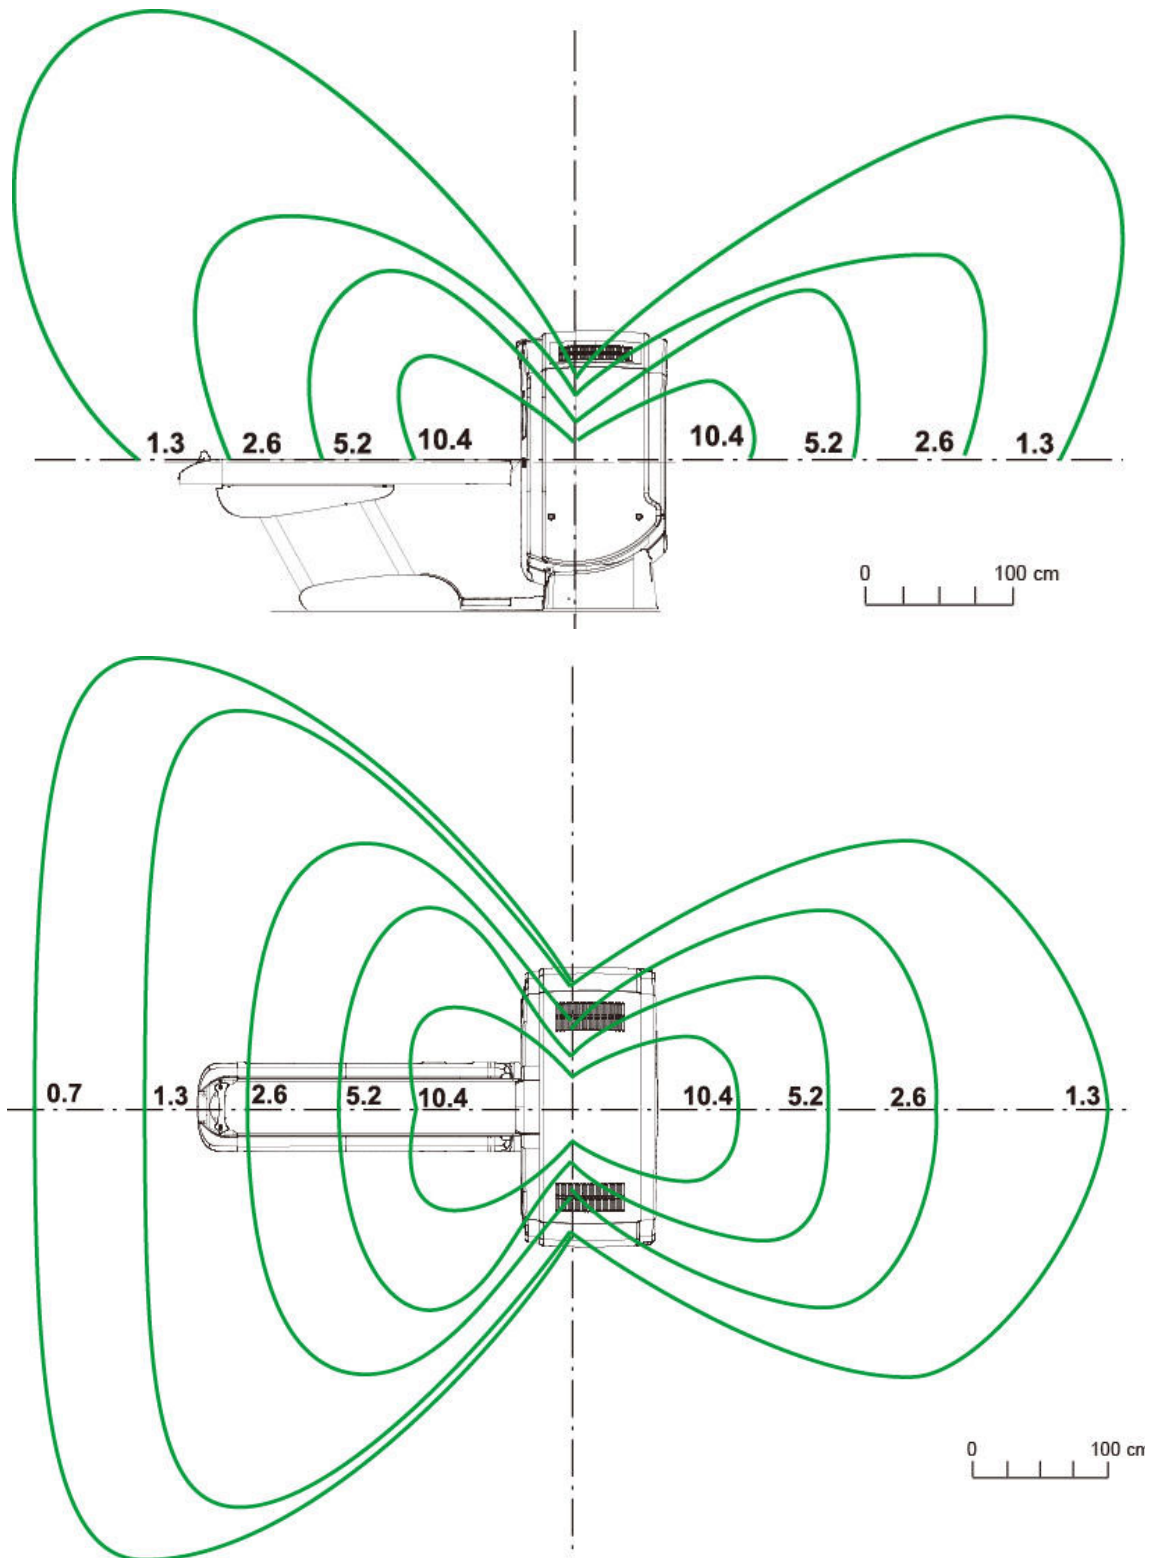

Figure 10-1 Typical Scatter Survey (Large Filter)
- Scatter radiation levels within the scanning room (see Figure 10-1).
The illustrations in this Chapter depict measured radiation levels within the scanning room, while scanning a 32 cm or 16 cm CTDI phantom with the technique shown. Use the mAs, kV and aperture scaling factors shown in Table 10-1 to adjust exposure levels to the scan technique used at the site. *Example* (from Figure 10-1): The exposure level for a 120 kV, 800 mA, 1 sec. scan at 1270 mm (50 in.) away from the scan plane is: $10.4 \mu\text{Gy} \times 0.71 \times 800/100 = 59.2 \mu\text{Gy}$.